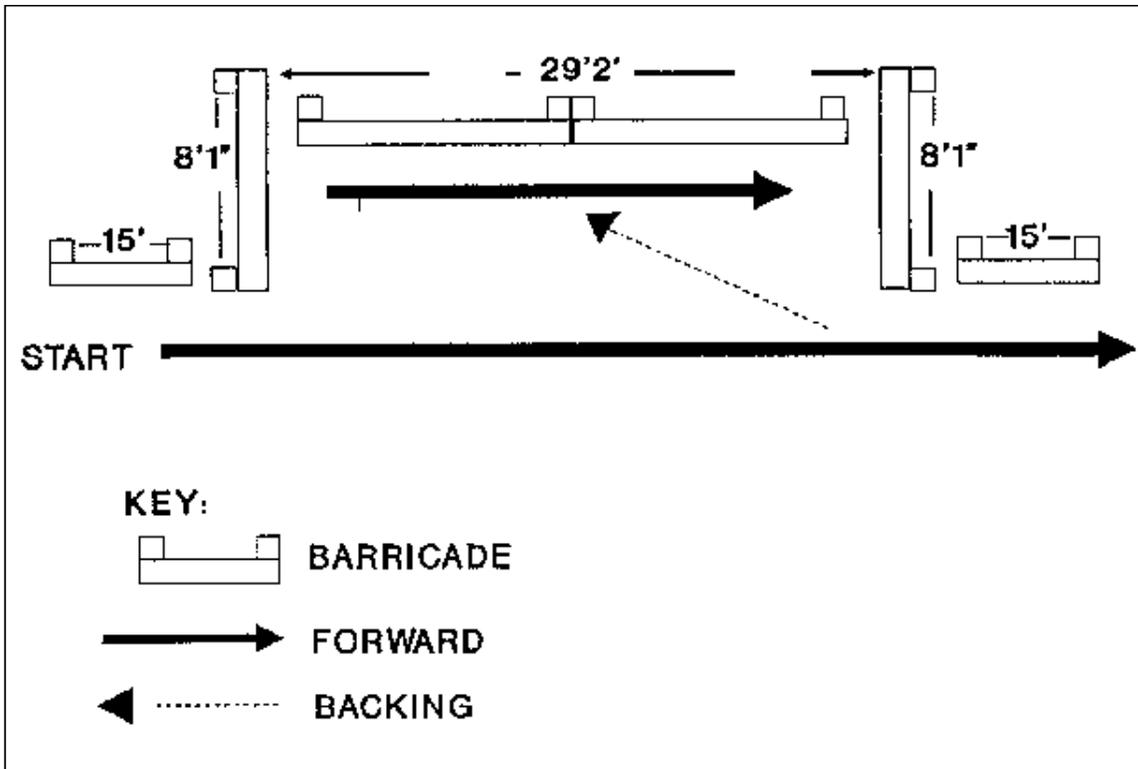

Figure 6-7. Light Vehicle Parallel Parking (Sight Side).
- Figure 6-7, light vehicle parallel parking (sight side).